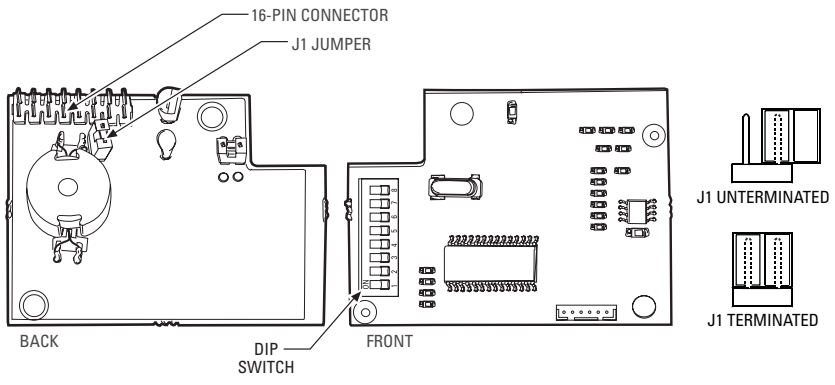
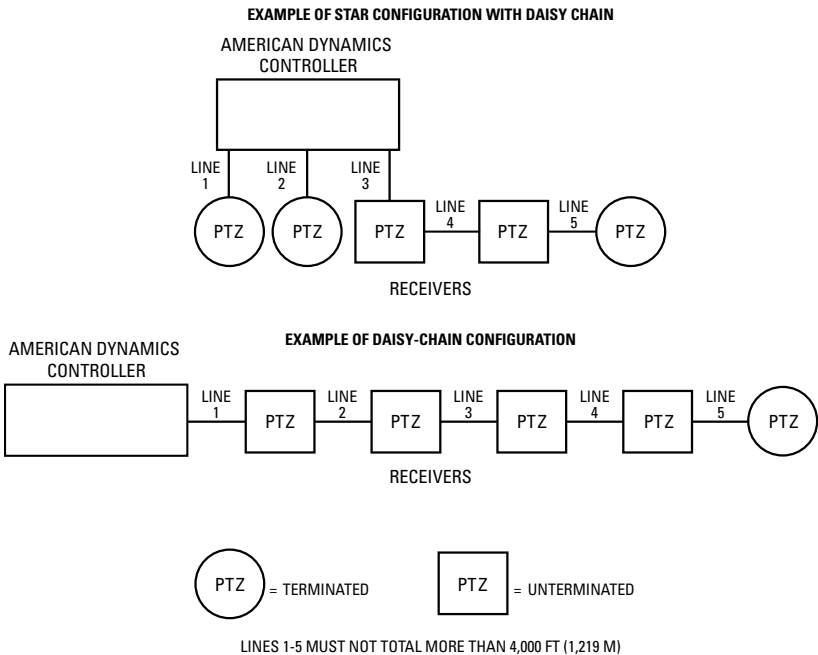

Figure 13. TXB-AD Translator Board Layout, Front and Back
Figure 14. Receiver Location
- Set the J1 jumper on the TXB-AD to the proper termination setting. The TXB-AD is shipped from the factory with the J1 jumper in the terminated position. To unterminate the unit, remove the cover from the J1 jumper and then place the cover over one pin for storage. Refer to Figure 13 and Figure 14.
For American Dynamics controllers with only 32 presets: Set SW3-1 to the ON position. Refer to Figure 13 for switch location.